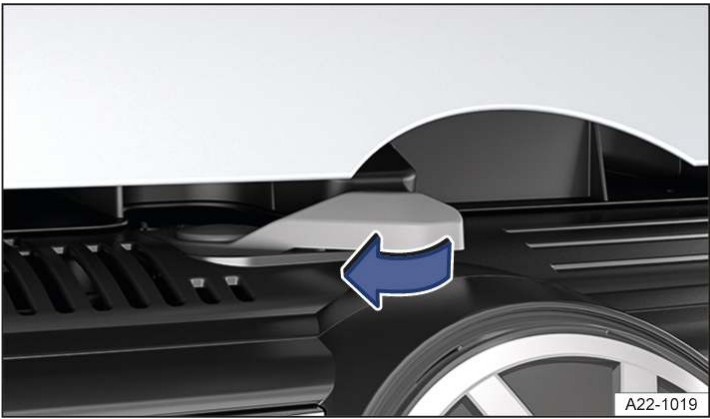

Fig. 2 Above the radiator grille: bonnet control lever (illustration).
2. To open the bonnet fully, lift the bonnet slightly while simultaneously pressing the opening lever in the direction of the arrow → Fig. 2.